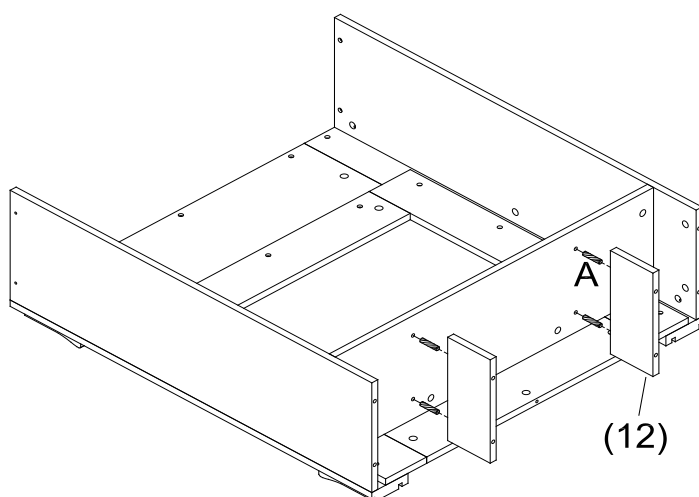

Figure 6
Insert Cam Locks (C) into holes on assembled unit on figure 6.
Attach assembled unit on figure 6 to Base (1) by inserting Wood Dowels (A) and Cam Bolts (B) into corresponding holes until Base (1) and assembled unit on figure 6 meet.